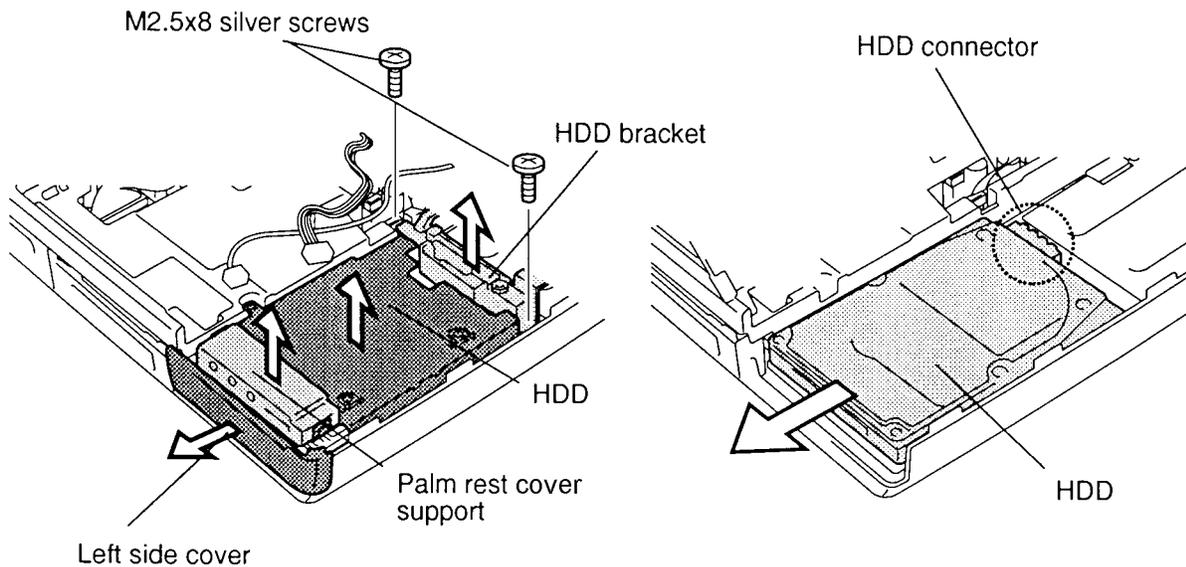

Figure 4-14 Removing the HDD with bracket
9. Remove **two M2.5x8 silver screws** from the **HDD** and remove the **HDD bracket**, **left side cover**, and palm rest cover-support (figure 4-14).
10. Slide the **HDD** to the left to disconnect the **HDD connector** (figure 4-14).
1. Place the **HDD** in the HDD slot and slide the HDD to the right. Make sure the HDD connects to the HDD connector on the system board (PJ502) (figure 4-14).
2. Secure the **HDD bracket** with the **two M2.5x8 silver screws** (figure 4-14).
3. Seat the **palm rest cover-support**, and secure the **left side cover** (figure 4-14).